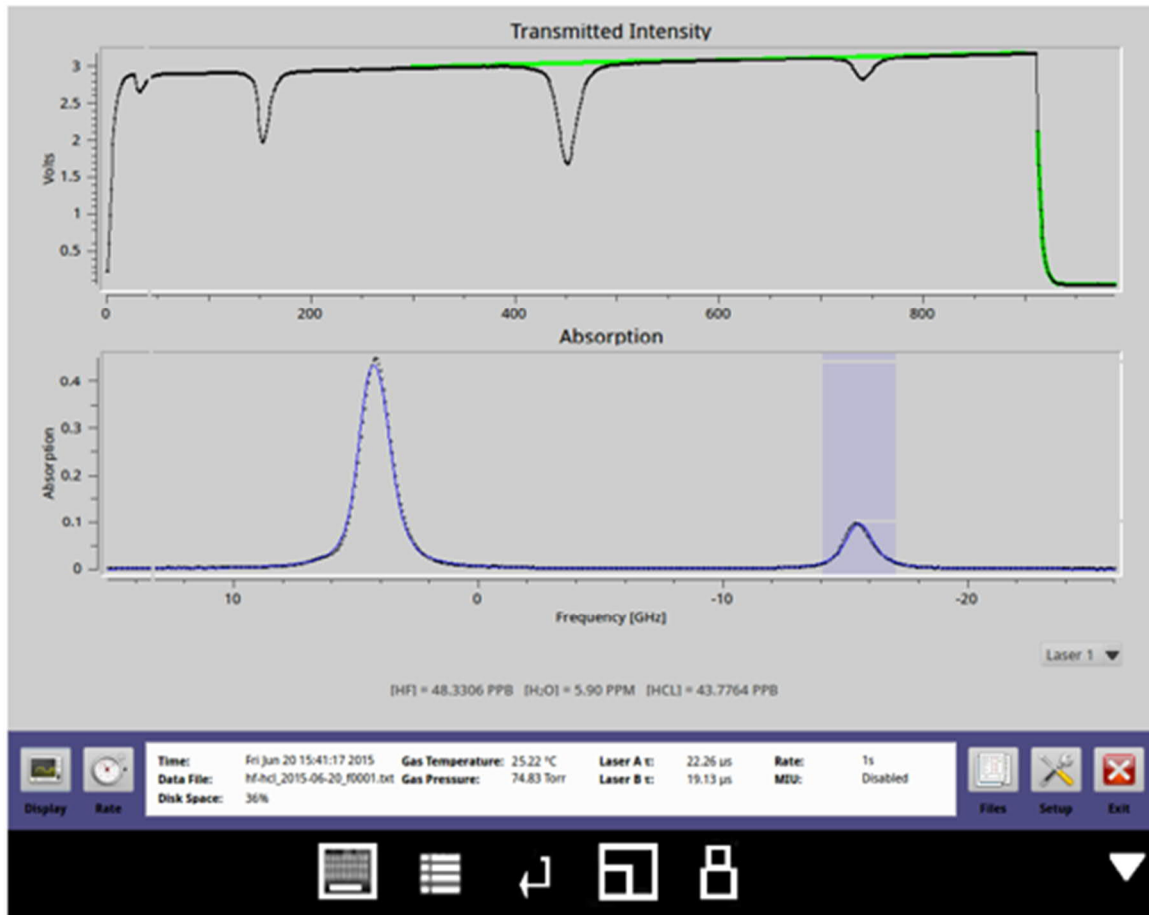

Figure 70: Analyzer Software Interface Display with Size Adjustment for Android Devices
14. Tap the Connect button to connect the Android device to the analyzer. The analyzer software interface screen displays on the device. The screen size is adjustable to fit the screen of the device. (Figure 70)